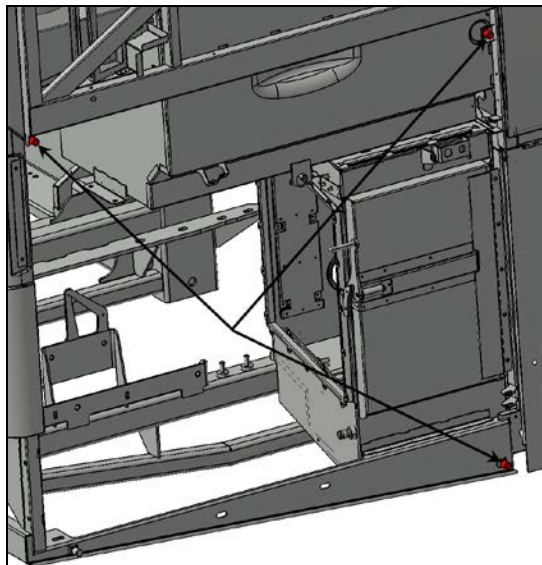
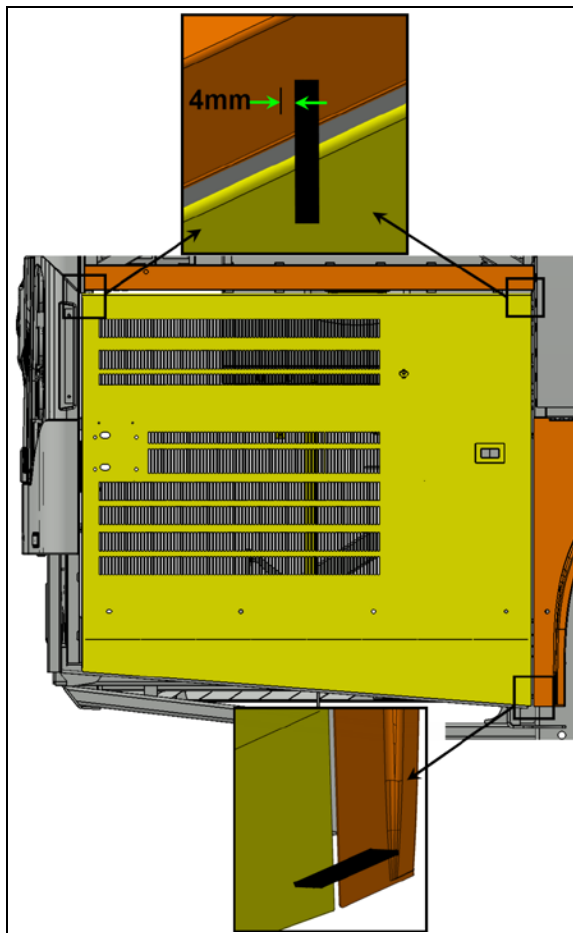

FIGURE 128
FIGURE 129
18. Screw in or out the two upper stoppers so that the upper part of the door exceeds the horizontal member by  $5/32$ " to  $3/16$ " (4mm to 5mm) (see FIGURE 128 & FIGURE 129).